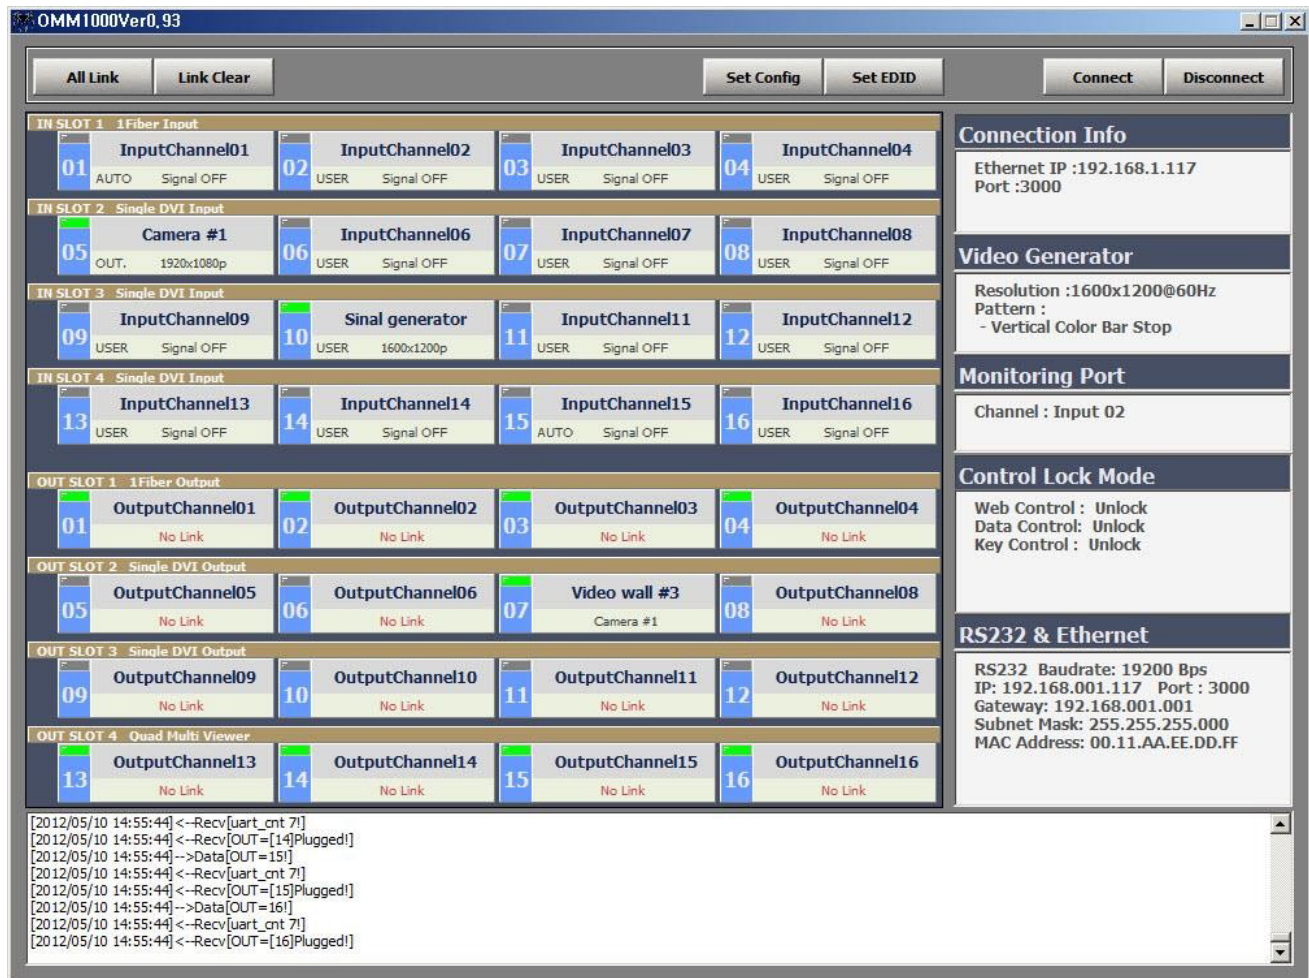

Fig 4-1 PC program of OMM-1000
- Click Save button to save it then, these will be applied on the PC program as shown in Fig 4-1.